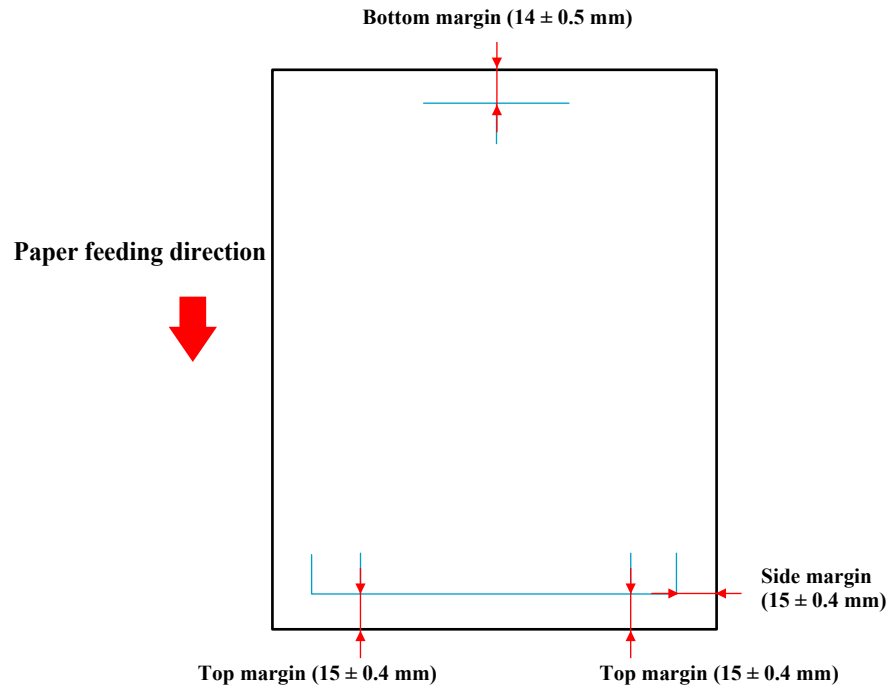

Figure 5-68. Adjustment Pattern
5. Measure the distance as shown in Figure 5-68.